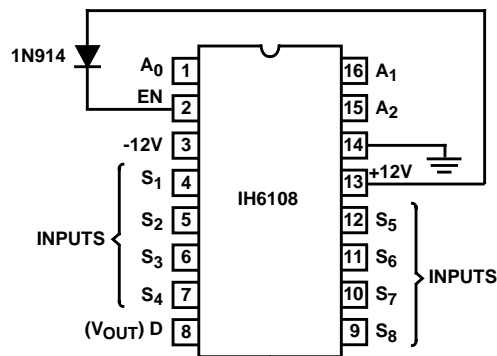

FIGURE 6. IH6108 CONNECTION DIAGRAM FOR LESS THAN ±15V SUPPLY OPERATION
Caution must be taken to ensure that the enable (EN) voltage is at least 0.7V below V_+ at all times. If this is not done, the Address input strobing levels will not function properly. This may be achieved quite simply by connecting EN (pin 2) to V_+ (pin 13) via a silicon diode as shown in Figure 6. When using this type of configuration, a further requirement must be met: the strobe levels of A0 and A1 must be within 2.5V of the EN voltage in order to define a binary “1” state. For the case shown in Figure 6 the EN voltage is 11.3V which means that logic high at A0 and A1 is +8.8V (logic low continues to be 0.8V). In this configuration the IH6108 cannot be driven by TTL (+5V) or CMOS (+5V) logic. It can be driven by TTL open collector logic or CMOS logic with +12V supplies.